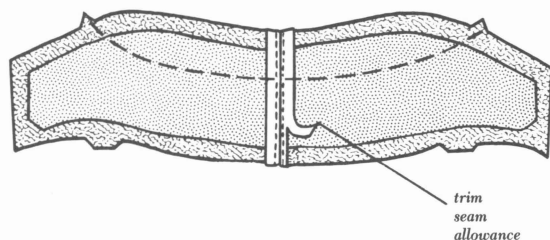

Figure 18. Stitch center back seam; mark roll line.
4. If the pattern has the roll line marked, mark the roll line on the interfacing (Figure 18).